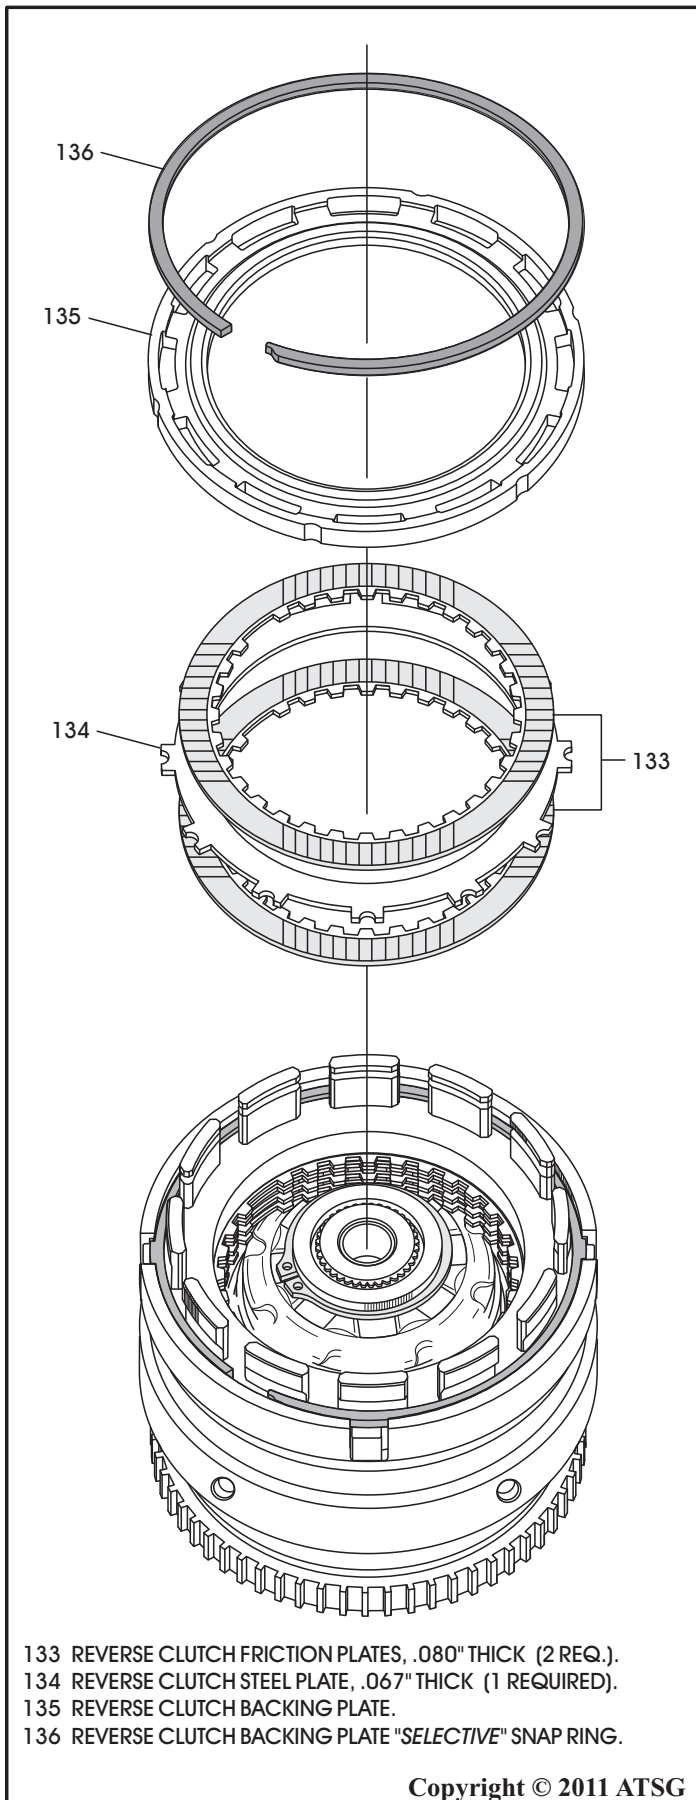

Figure 103
35. Temporarily install the reverse clutch pack beginning with a friction plate and alternating with steel plate until you have installed two friction plates and 1 steel plate, as shown in Figure 103.
36. Install the reverse clutch backing plate with the flat side facing down, as shown in Figure 103.
37. Install reverse clutch backing plate *selective* snap ring as shown in Figure 103.
48. Re-install the reverse clutch pack completely, as described on Page 68, and illustrated in Figure 103.